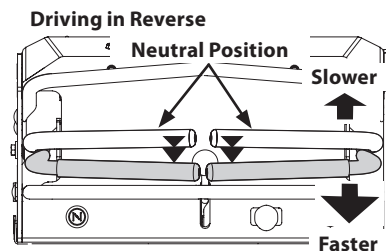

Fig. 13
1. Slowly and evenly move both drive control levers rearward. The mower will start to move in the reverse direction (Fig. 13).